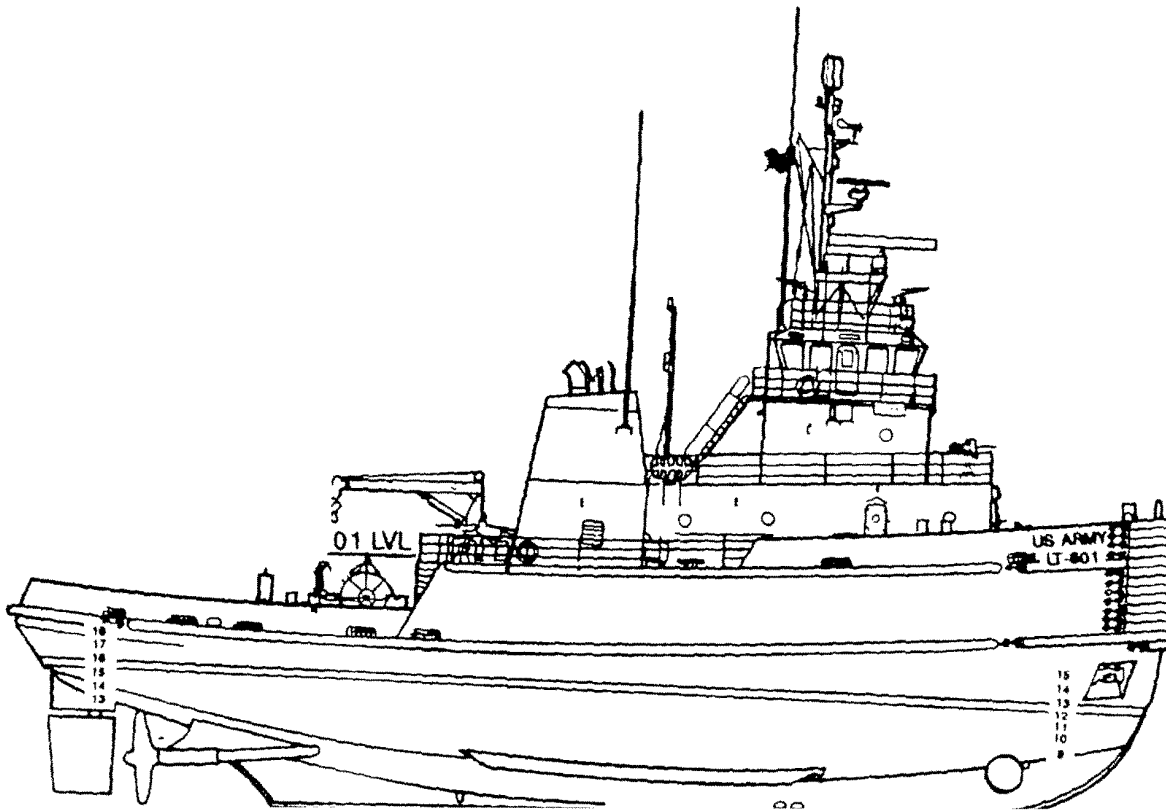

Figure 1-1. Large Tug.
**1-1. Scope.** This is an operator's manual for the Large Tug (LT) (Figure 1-1). The LT performs coastal and ocean towing, docking, and undocking operations with large ocean vessels. These vessels include the SL-7 (FSS) LASH and SEABEE vessels. The LT also handles barges in the open ocean. The LT can provide fire fighting, salvage, and rescue help to other ships and shore installations on a limited basis. The vessel operates in inland waterways, coastal waters, and the open ocean. It can deploy overseas under its own power.